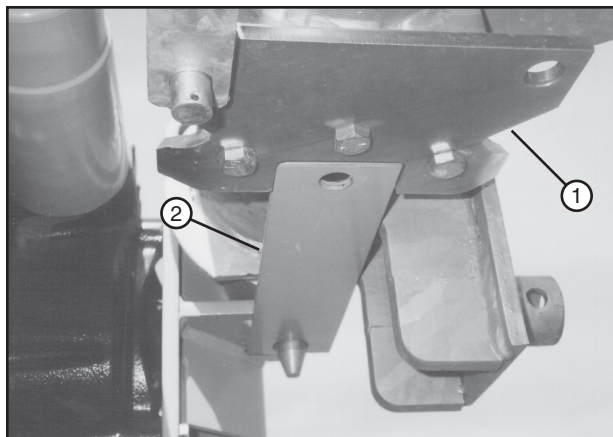

Figure 78-1 1. Mounting Bracket
4. Raise the cart, then release the towable gearbox mounting brackets from the keepers. Rotate the wheel assembly approximately 60°. See Figure 78-1.